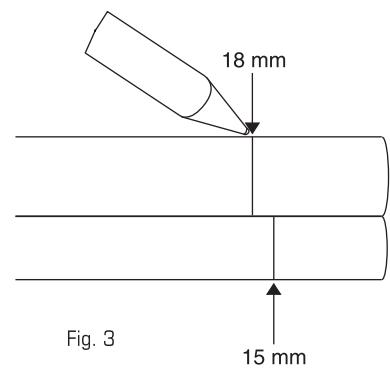

Fig. 3
- a. **Lay** both ends of the RED tubes on the new pressure regulator assembly in this kit on the top of the diagram (Fig. 3) and **mark** them at the arrows.
- b. **Lay** the RED tube attached to the installed eSpring faucet on the top of the diagram (Fig. 3) and **mark** them at the arrows.
- c. **Lay** the BLUE tube attached to the $\frac{3}{8}'' \times \frac{1}{4}'' \times \frac{5}{16}''$ Large T Connector with BLUE tube attached, h, (Fig. 1) on the bottom of the diagram (Fig. 3) and **mark** them at the arrows.
- d. Use a ruler or **lay** the tube from the cold water supply on the top of the diagram and **mark** a line at $\frac{3}{4}''$ (18mm) or at the arrow (Fig. 3).